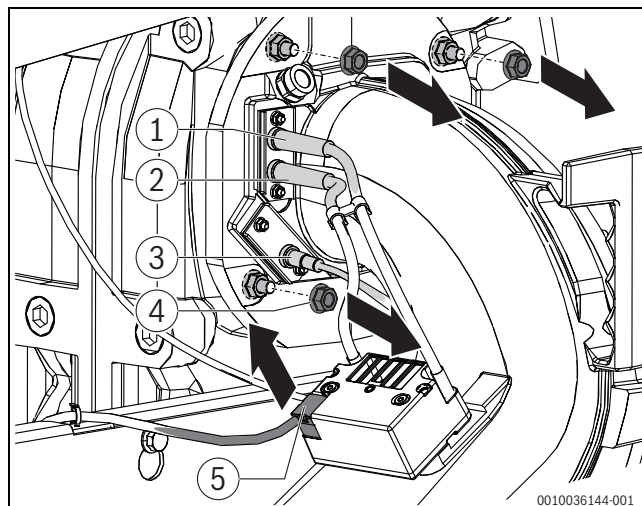

Fig. 51 Undo the connecting cable and nuts on the ignition transformer
- ▶ Undo the connecting cable on the ignition transformer (→Fig. 51, [5]).
- ▶ Remove the 4 fixing nuts (→Fig. 51, [4]) at the top on the mixture manifold.
- Remove the 4 fixing nuts (→Fig. 51, [4]) at the top on the mixture manifold.
- Undo the connecting cable on the ignition transformer (→Fig. 51, [5]).